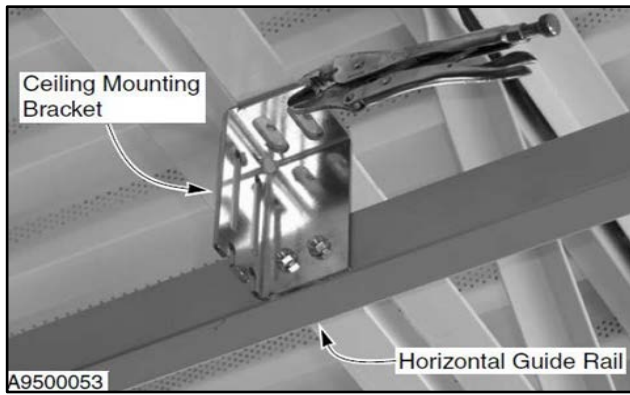

Figure 71
- Install adequate ceiling mounting brackets to the horizontal track assembly. The installer/customer is responsible for this. (See Figure 71)